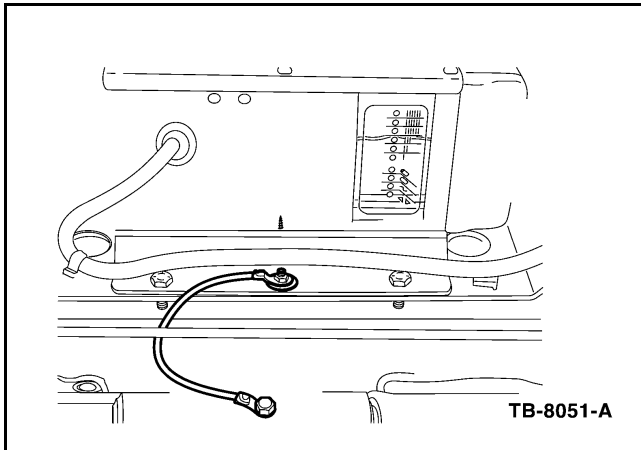

Figure 10 - Article 04-24-9
4. Remove ground stud nut from charger. Drill a 5/32" hole directly in front of the charger ground stud on the frame. Attach the 5" green ground wire to the charger with the previously removed nut. Then attach the other end of the ground wire into the drilled hole in the frame with the supplied #10 self-tapping screw and star washer (Figure 10). Torque to 8 lb-ft (11 N•m).